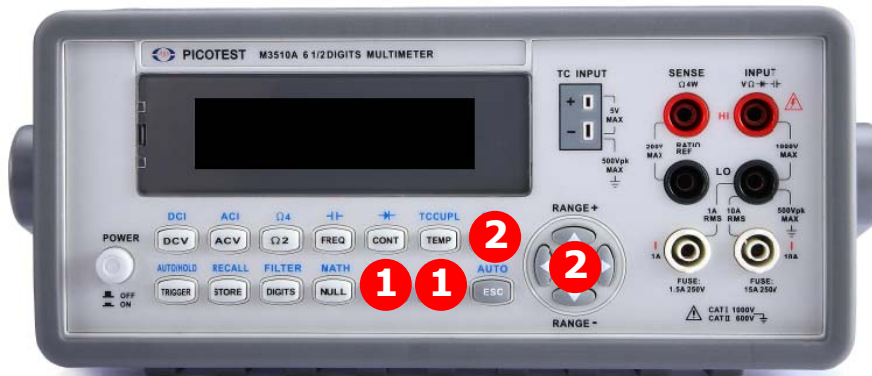

Figure 4-1
1. Press SHIFT+CONFIG buttons as shown in **Figure 4-1**.